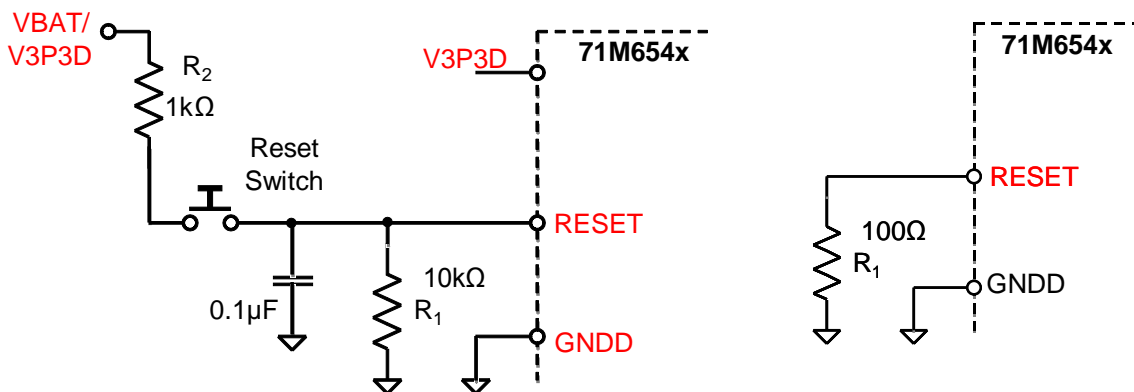

Figure 42: External Components for the RESET Pin: Push-Button (Left), Production Circuit (Right)
Even though a functional meter does not necessarily need a reset switch, it is useful to have a reset pushbutton for prototyping as shown in Figure 42, left side. The RESET signal may be sourced from V3P3SYS (functional in MSN mode only), V3P3D (MSN and BRN modes), or VBAT (all modes, if a battery is present), or from a combination of these sources, depending on the application.
- ✓ For a production meter, the RESET pin should be protected by the external components shown in Figure 42, right side. R1 should be in the range of 100Ω and mounted as closely as possible to the IC.
Since the 71M6541D/F and 71M6542F generate their own power-on reset, a reset button or circuitry, as shown in Figure 42, is only required for test units and prototypes.